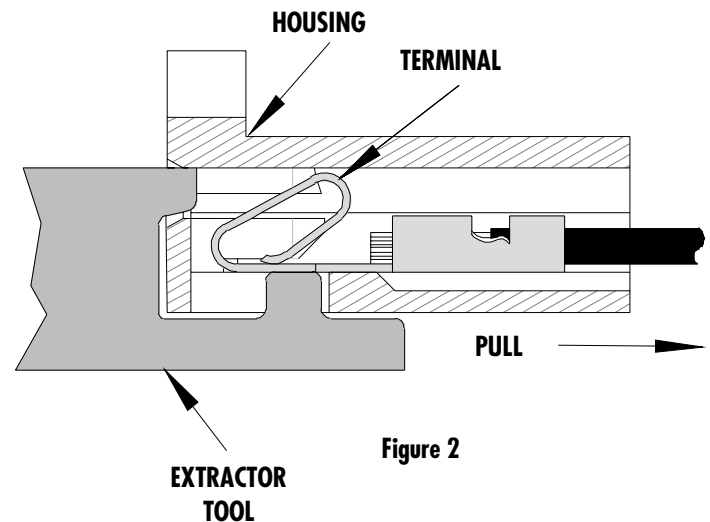

Figure 2
3. Rotate the extractor tool into the position shown in Figure 2. This will depress the locking tang of the terminal and allow the terminal to be removed by gently pulling on the wire.